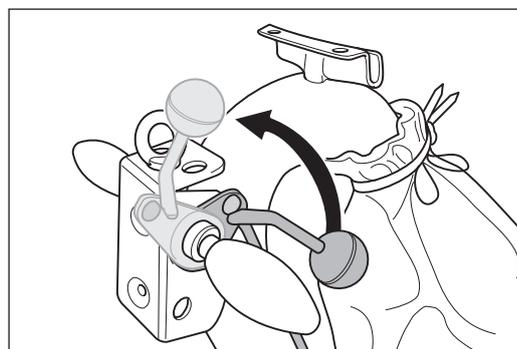

Fig. 12 Lift the sanding drum off the floor by turning the lowering lever at the handle upwards.
- **Always** lift the sanding drum off the floor before switch on the machine (Fig. 12)!
- 1 Lift the sanding drum off the floor by turning the lowering lever at the handle upwards (Fig. 12).
- **Always lift the sanding drum off the floor before switch on the machine (Fig. 12)!**
- 1 **Lift the sanding drum off the floor by turning the lowering lever at the handle upwards (Fig. 12)!**
- 1 Before switch off the machine lift the sanding drum off the floor by turning the lowering lever at the handle upwards (Fig. 12).